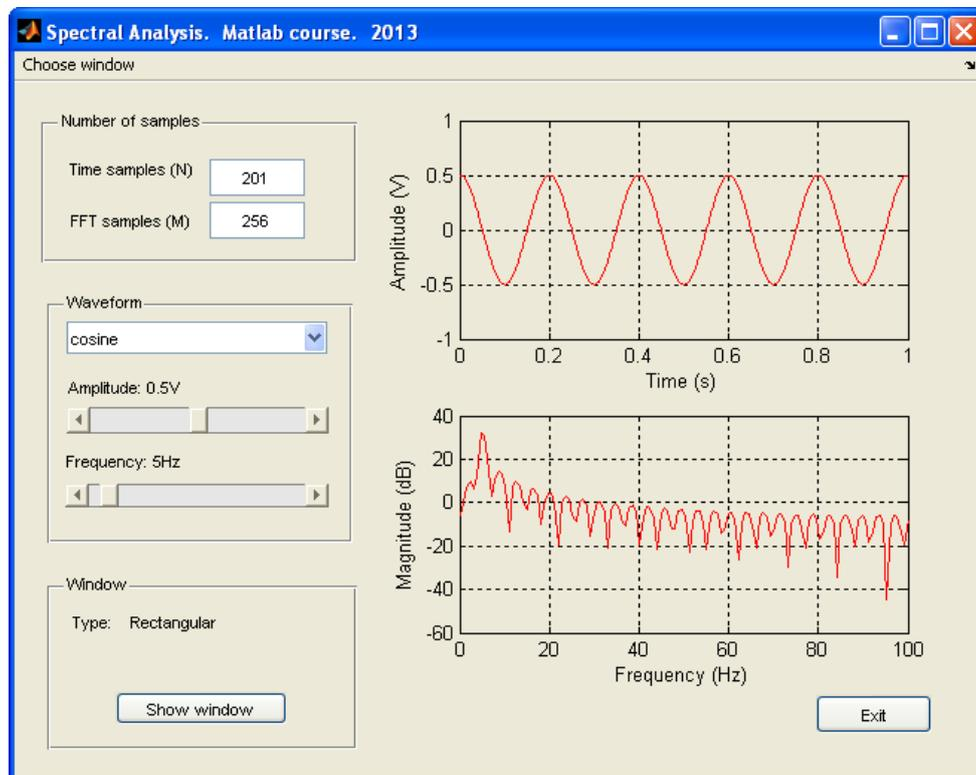

Fig. 1. Spectral Analysis application
Exercise 1. Time domain representation. Generate and plot a cosine signal \mathbf{v} with amplitude $\mathbf{A}=0.5$ and frequency $\mathbf{freq}=5$ (Hz) in a time axis \mathbf{t} of $\mathbf{N}=201$ samples, with first sample $\mathbf{t0}=0$ and last sample $\mathbf{tf}=1$ (functions **linspace**, **cos**, **plot**). Check that the obtained plot is the same than the first one in Fig. 1. Repeat the exercise for a square signal (function **square**) and for a saw tooth signal (function **sawtooth**).
- 4) Generate a frequencies vector \mathbf{f} of $\mathbf{M}/2$ points with first value 0 and last value $\mathbf{fs}/2$ (function **linspace**). Plot the magnitude of \mathbf{V} (dB) at \mathbf{f} values. Check that the obtained plot is the same than the second one in Fig. 1.
- The color of the figure, panels, axes, static texts, etc. must be the same as it is shown in Fig. 1.
The plant: The plant to be controlled is the inverted pendulum in a cart shown in Fig. 1. When the pendulum and/or the cart are disturbed, the system must return to its equilibrium position which is given by the values $\theta = 0^\circ$ and $x = 0\text{m}$. The disturbances acting over the plant will be modeled as initial conditions and the control signal will be the external force u acting over the cart.